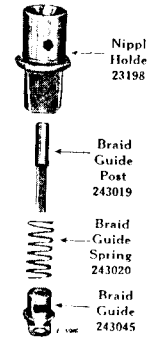

Fig. 32. Fittings for Braiding
Remove the presser foot, needle plate and nipple, as instructed on page 9. In place of the nipple, use nipple holder 231981 (Fig. 32) and fasten it in the machine by means of the set screw, so that the opening in the holder will be at the **front** when the handle (K, Fig. 10) is at the **front**. Place the braid guide post 243019 (see Fig. 32) up into the nipple holder as far as it will go, having the flat side to the front when the handle (K) is also at the front, then tighten the set screw.
Having selected the braid guide (see Fig. 32) to fit the braid to be used, place the braid guide spring 243020 (see Fig. 32)